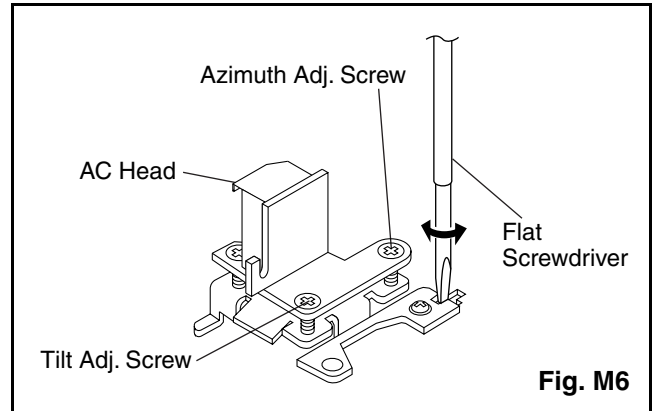

Fig. M6
4. If creasing or snaking is apparent, adjust the Tilt Adj. Screw of the AC Head. (Fig. M6)
4. Use the Flat Screwdriver so that the PB FM signal at TP301 (C-PB) is maximum. (Fig. M6)
3. Adjust Azimuth Adj. Screw so that the output level on the AC Voltmeter or the waveform on the oscilloscope is at maximum. (Fig. M6)